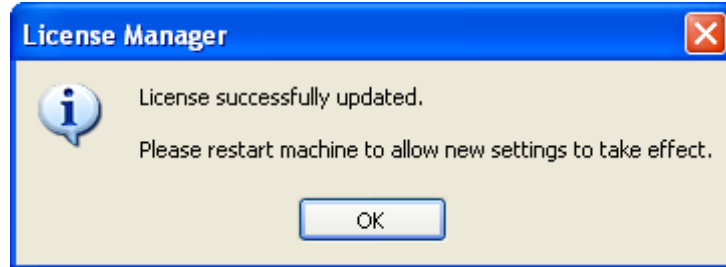

Figure 2-16. License Successfully Updated message box
16. If the registration completes successfully, you will see the message box in *Figure 2-16*; just click **OK** and you're done. Reboot your PC for the new licenses to be activated.